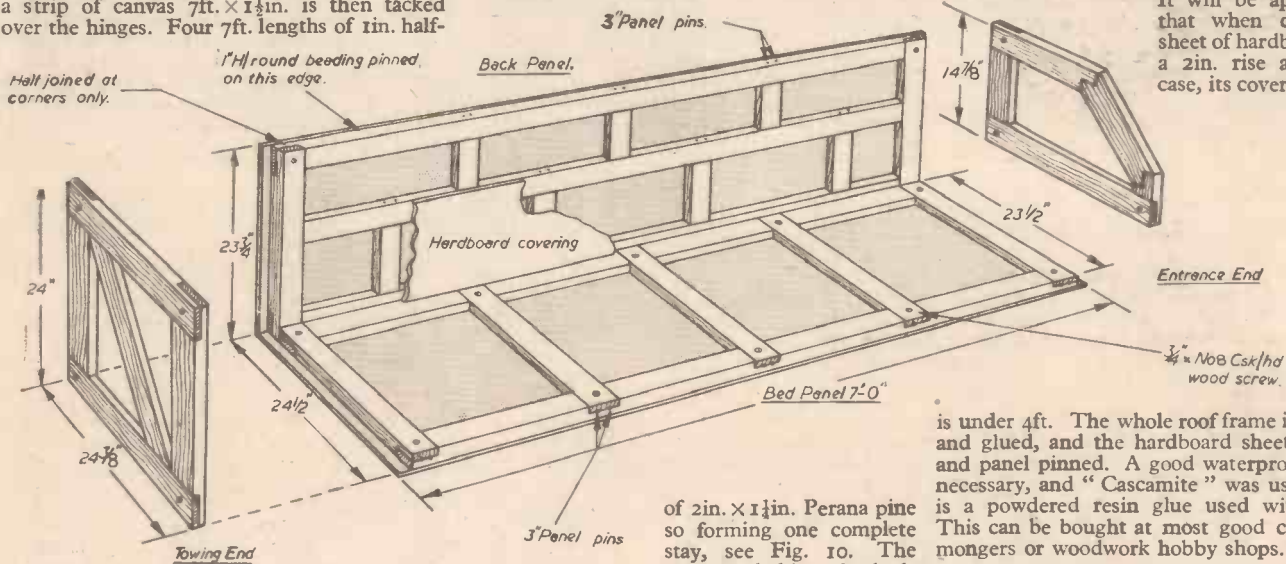

Fig. 9.—Framework of bed sections, faced both sides with hardboard.
**A** PART from the roof the trailer is made up of panels faced both sides with hardboard. A layout and assembly of the beds are shown in Fig. 9. These are placed on the lower part of the trailer in their closed position and are hinged on the outside. To keep out draught when in use, and rain when towing, a strip of canvas 7ft. x 1½in. is then tacked over the hinges. Four 7ft. lengths of 1in. half-